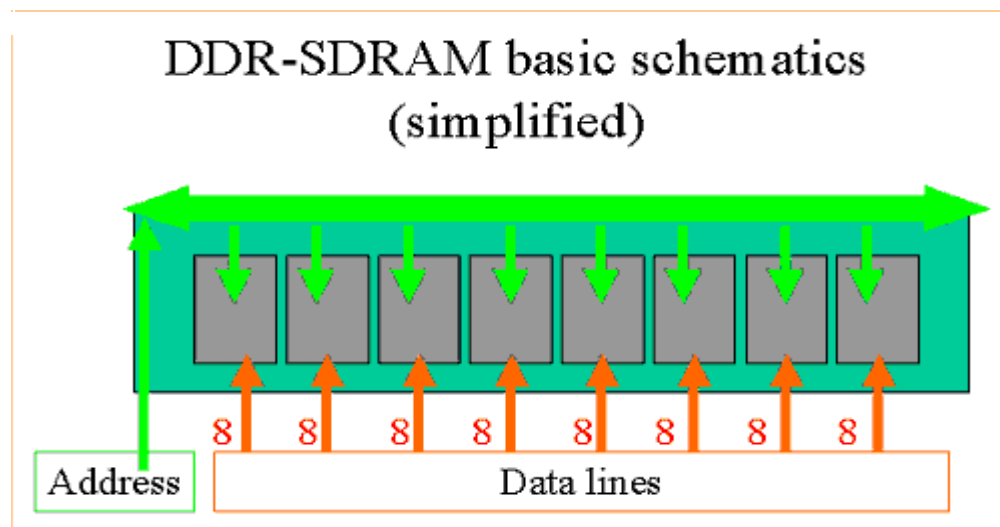

Fig 2. DDR SDRAM address and data routing
Notice that the signal topology for addresses and data is different in DDR (as well as SDRAM) systems. Take a look at figure 2, but please note that this is a simplified scheme, the exact wire routing is beyond the scope of this article. What you should grasp from the figure above is that 64 data bits of the data bus are cut up in 8 parallel data wires, each connecting to a (S)DRAM chip.
But that is not all. Take a look at the figures 2 and 3 again. As the DDR SDRAM topology uses 8 datapaths in parallel, each datapath of 8 bit will hit only two or three discontinuities, one for each DIMM that you insert in your motherboard. In case of RDRAM however, as every chip is connected to the same datapath, the data signal will encounter as much discontinuities (stubs) as there are chips. For a signal traveling away from the memory controller, even though the stubs are small (relative to the wavelength of the signal), they look like a "lumps" of capacitance on the memory bus itself. To make sure that a lot of chips can be connected to the snake, the memory bus traces compensate for this. The traces are made narrower to increase the impedance and compensate for the reduced impedance of the capacitive load of the stubs. So, they have higher impedance right where the DRAM is attached to the memory bus. At the end of the RDRAM channel we find termination that matches the characteristic impedance of the channel, thus absorbing the signals that reach the end of the bus and eliminating signal reflections.